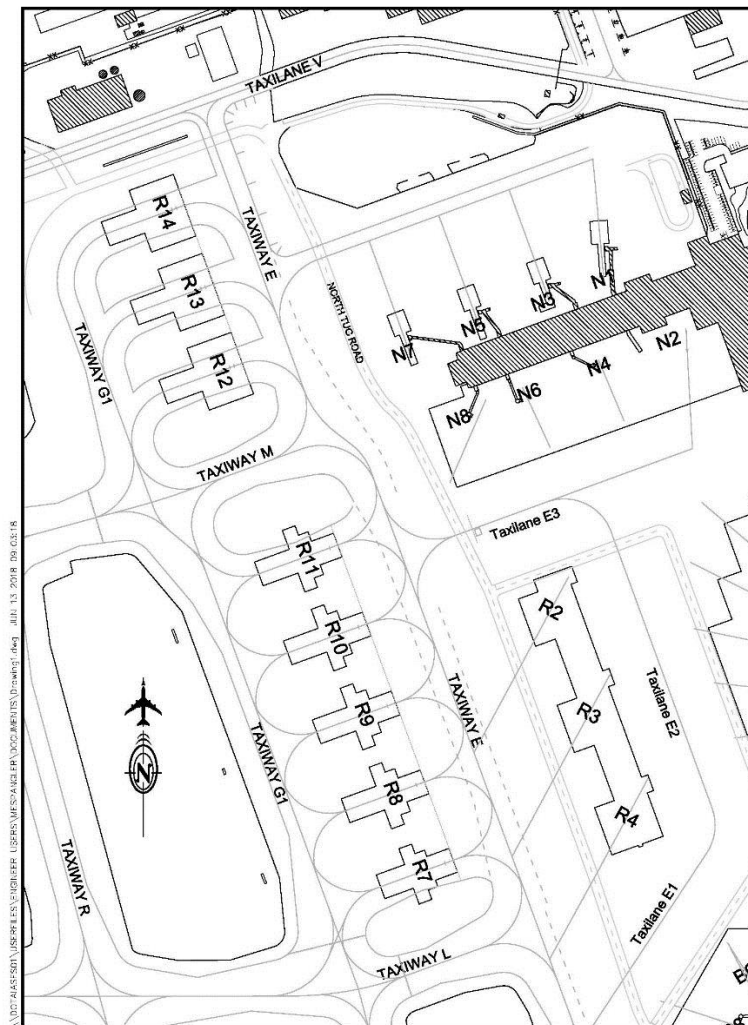

Figure 1
4.3 North Terminal Parking (Figure 1)
4.4 Remote Parking Positions (Figure 1)